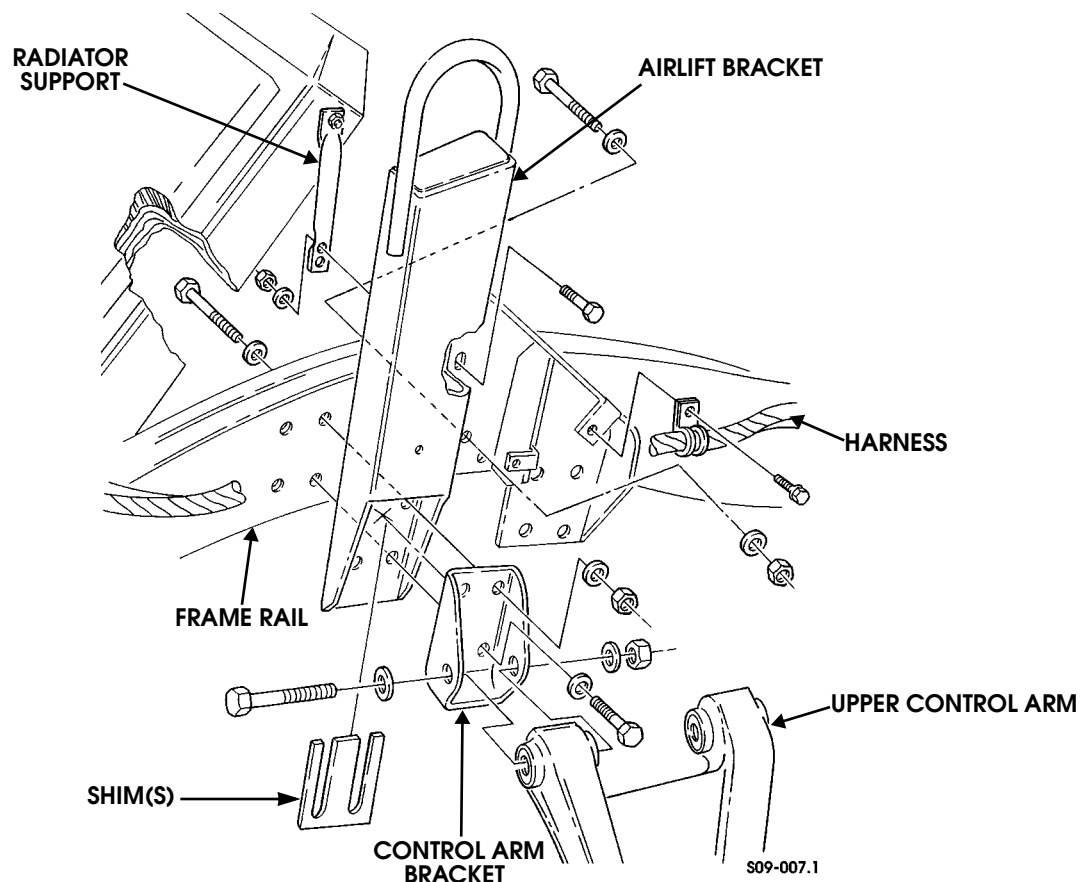

Figure 9-129: Left Airlift Bracket and Front Upper Control Arm Bracket Replacement
3. Remove three screws and clamps securing harness to airlift bracket (Figure 9-129).
1. Install airlift bracket, shim(s) and two control arm brackets on frame rail with eight washers, bolts, washers, and locknuts. Tighten locknuts to 90 lb-ft (122 N•m) (Figure 9-129).